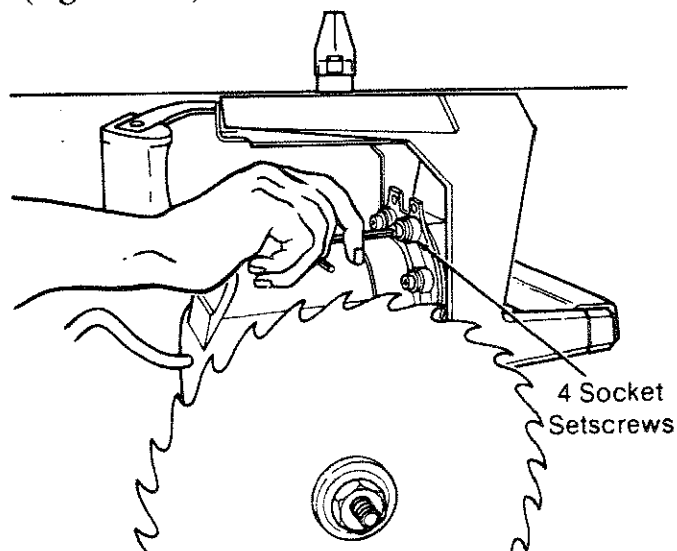

Fig. 109
7. Loosen the four screws behind the *yoke* using a 1/8 inch hex-L wrench. (Figure 109)